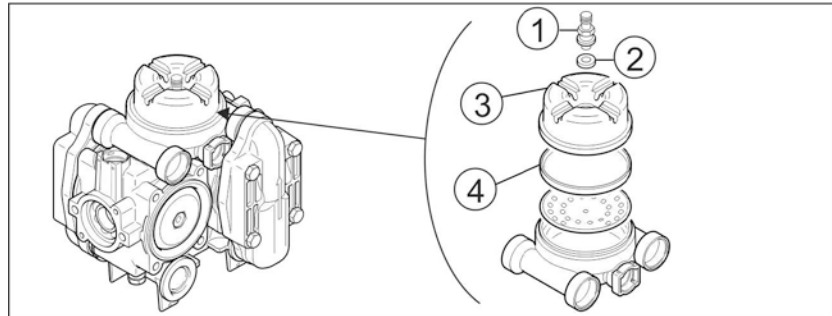

Fig. 194
1. Remove the valve (Fig. 194/1) and washer (Fig. 194/2).
2. Place a suitable tool in the groove of the cover and unscrew the cover (Fig. 194/3).
3. Check the diaphragm (Fig. 194/4) and exchange the diaphragm if it is defective.